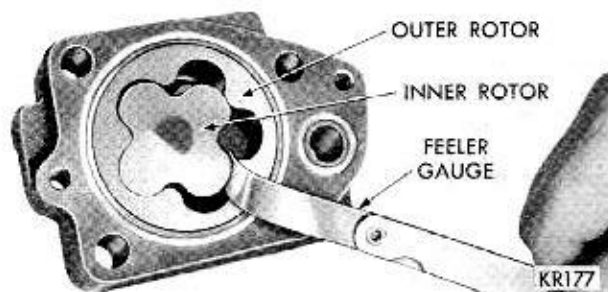

Fig. 57—Measuring Clearance Between Rotors
(7) If the tip clearance between inner and outer rotors (Fig. 57) is more than .010 inch, replace inner and outer rotor.